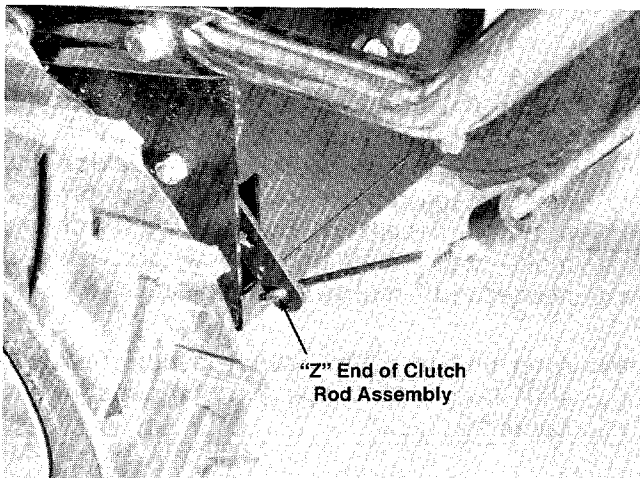

FIGURE 14.
19. Auger clutch rod assembly and lockout rod are preassembled. Place "Z" end of clutch rod assembly into hole in clutch bracket on left side of unit as shown in figure 14.